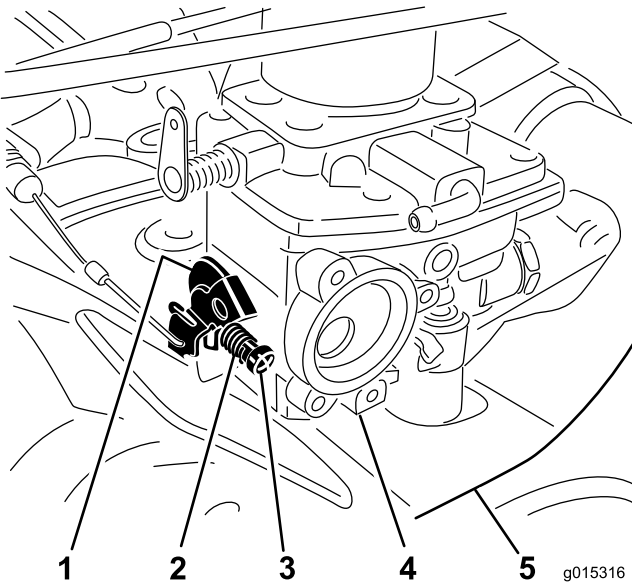

Figure 6
10. Install the idle screw and spring to the carburetor assembly at the throttle lever as shown in Figure 6.